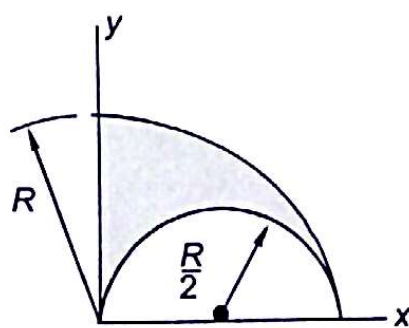

Fig. 8.20
8.6 What is moment of inertia about xx-axis of the shaded area shown in Fig. 8.20?